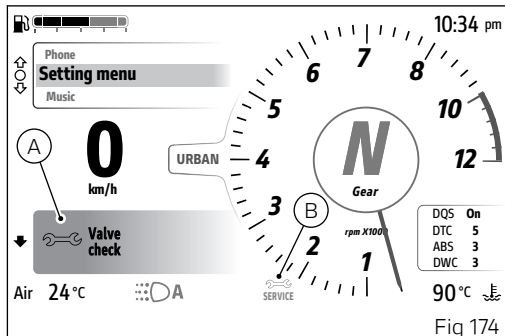

Fig 174
As the thresholds set for service coupons approach, upon each Key-On the instrument panel activates the relevant indications for 5 seconds in large mode (A, Fig 174) in yellow, showing the remaining distance or days: for "Oil service" (C) and "Valve Check" (D) it is activated 1,000 km (621 miles) before service is due, for "Annual Service" (E) 30 days before service is due.
Once the threshold of the service coupons has been reached and upon every Key-On, the corresponding red signal is activated in large mode (A, Fig 174) for 5 seconds, then the signal toggles to small mode (B, Fig 174): "Oil service" (F), "Valve check" (G), "Annual service" (H).